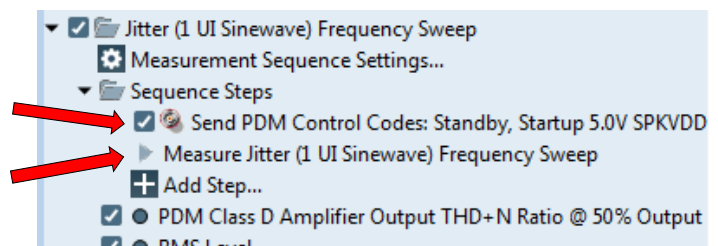

Figure 35. Jitter Frequency Sweep measurement in a Sequence, with Send PDM Control Codes sequence step.
APx provides the Send PDM Control Codes sequence step to setup a PDM part for testing within a measurement. Figure 35 shows a **Jitter Frequency Sweep** measurement, in the Sequence Mode Navigator, with a **Send PDM Control Codes** sequence step just before the **Measure Jitter** step starts the jitter sweep.
**Jitter Level Sweep** and **Jitter Frequency Sweep** measurements automatically enable the jitter generator when the measurement context occurs, before the Sequence Steps shown in Figure 35. This means that if the **Signal Path Setup Clocks** panel was set with Jitter Generator **OFF**, the PDM interface will switch to a jittered clock, momentarily stopping the bit clock, resulting in a reset to the PDM part.
To recover from the PDM device reset caused by the clock switch, send the PDM control code before the Measure sequence step, as shown by red arrows in Figure 35.